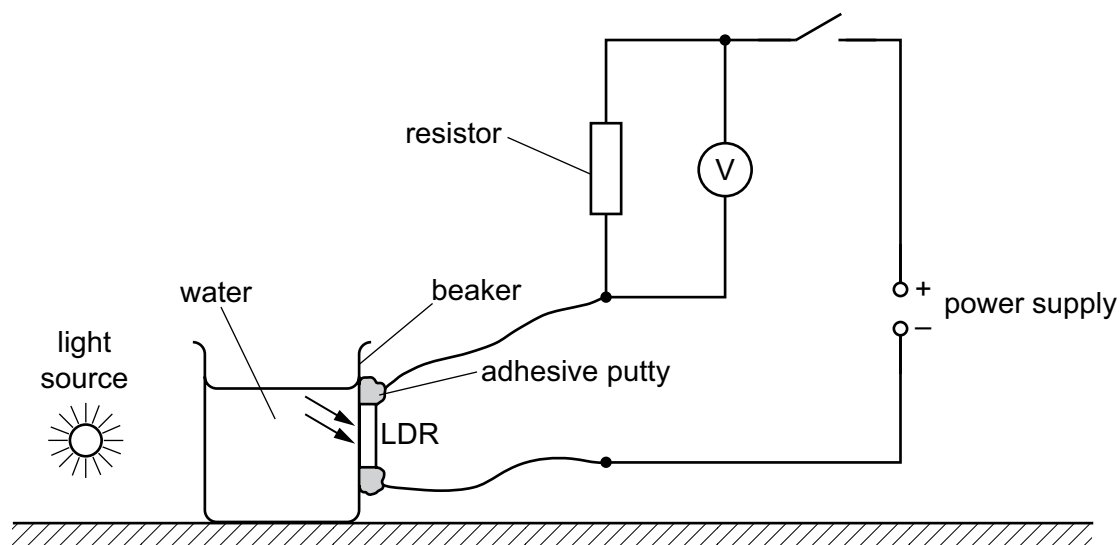

Fig. 1.1
- 3 The supervisor should assemble the circuit and other apparatus as shown in Fig. 1.1.
The supervisor must ensure that the apparatus is in the configuration shown in Fig. 1.1 with only 150 cm^3 of fresh water in the beaker and the light source switched off.